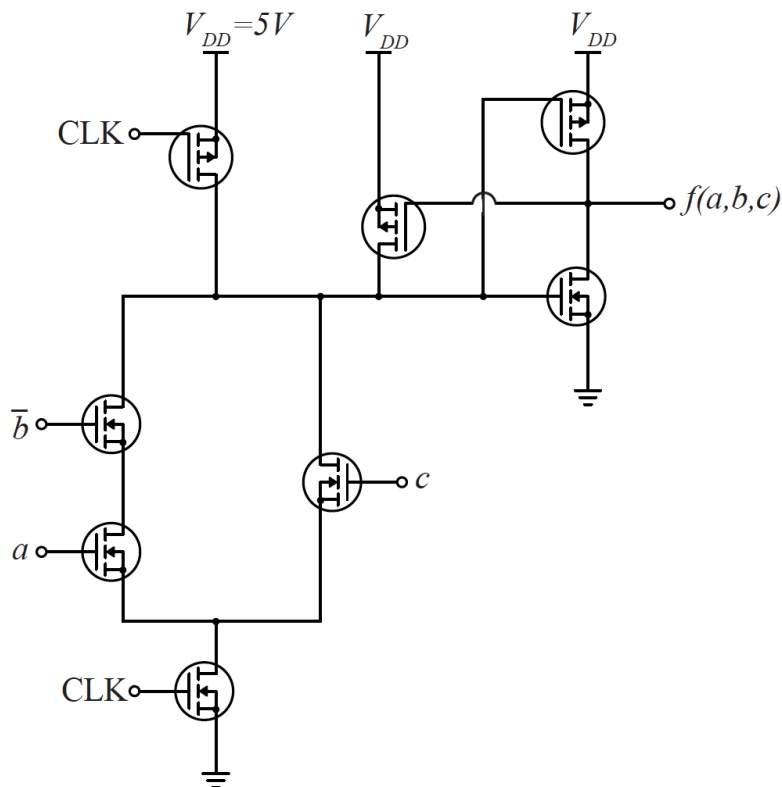

Fig. 1
- 1 (a) Design a non-inverting Schmitt trigger buffer using only n -type and p -type Metal-Oxide-Semiconductor Field-Effect Transistors (MOSFETs), and draw the schematic of your design. You do not have to write the exact size of transistors, but instead you may label individual transistors as wide (W), medium (M), or narrow (N). It is understood that p -type MOSFETs will have twice the width of n -type MOSFETs with the same label. Make sure that there is high resistance at the input of your gate, so that a change of your design would have little impact on the previous gate, i.e. the gate driving your design. Explain your answer. [40%]
- (b) What function $f(a,b,c)$ does the circuit in Fig.1 implement? Explain your answer. (Here, CLK is a clock signal varying between high and low logic values.) [30%]